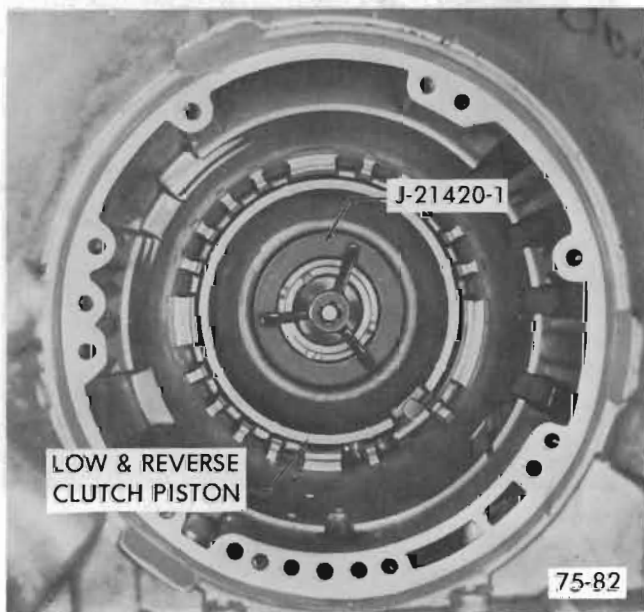

Figure 75-226
5. Position piston return seat on piston return springs. Place snap ring on return seat so that ring may be easily installed when seat is compressed with Tool J-21420. See Figure 75-226.
6. Install spring retainer and retaining ring. Using Tool J-21420-1 compress return seat so spring retainer retaining ring may be installed with snap ring pliers. See Figure 75-226.